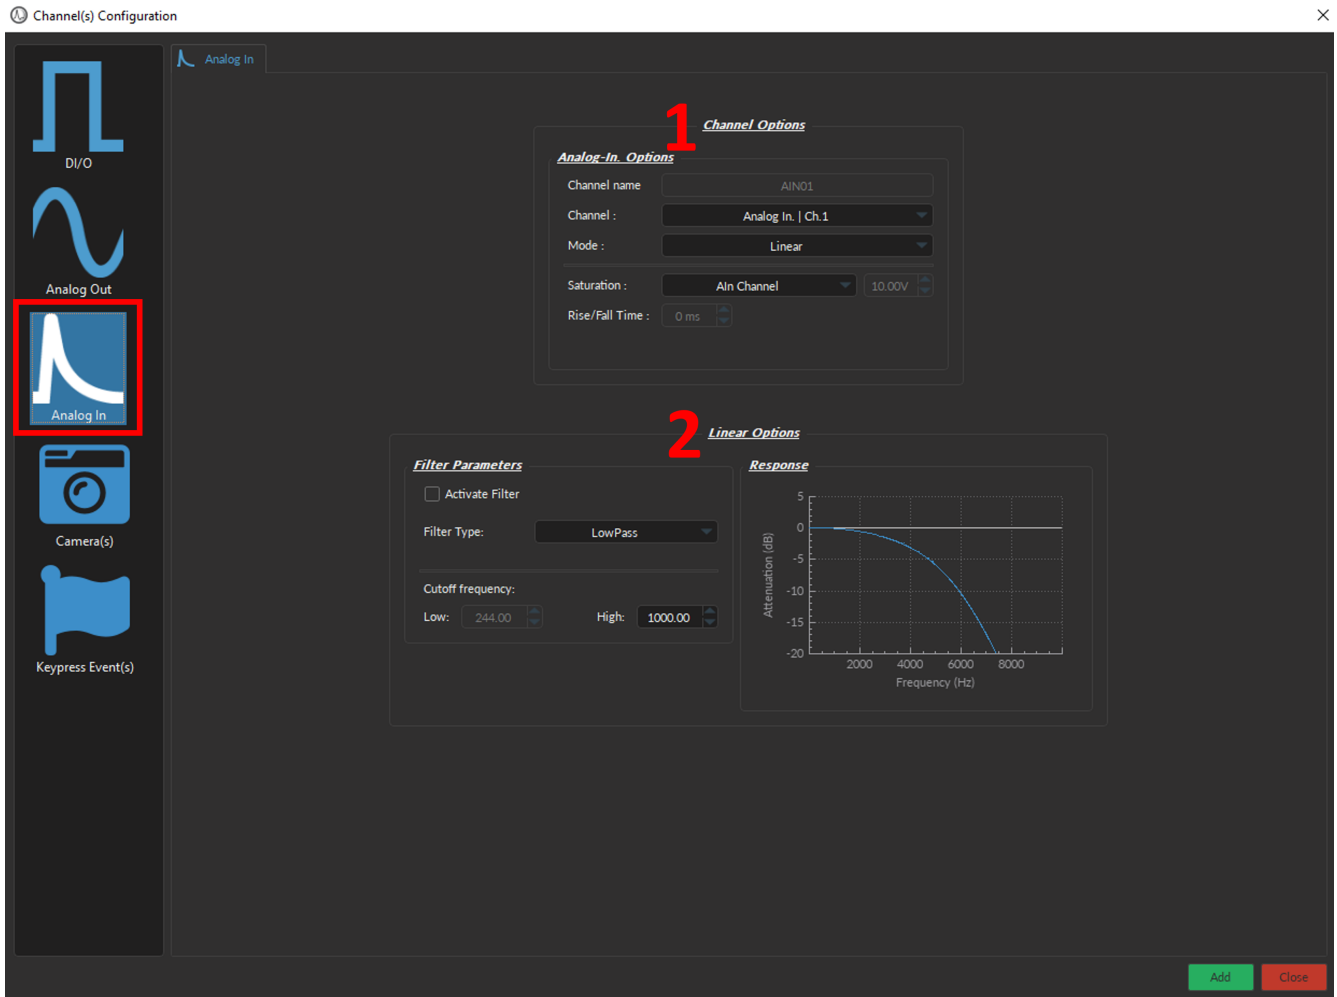

Figure 5.26: *Channel(s) Configuration, Analog Input*
The *Channel(s) Configuration* window for the **Analog Input** is divided into two sections (Fig. 5.26): (1) the **Channel Options** (Section 5.4.5.1) and (2) the **Mode-specific Options** (*Linear*, Section 5.4.5.2; *Interleaved*, Section 5.4.5.3; *Lock-In*, Section 5.4.5.4).